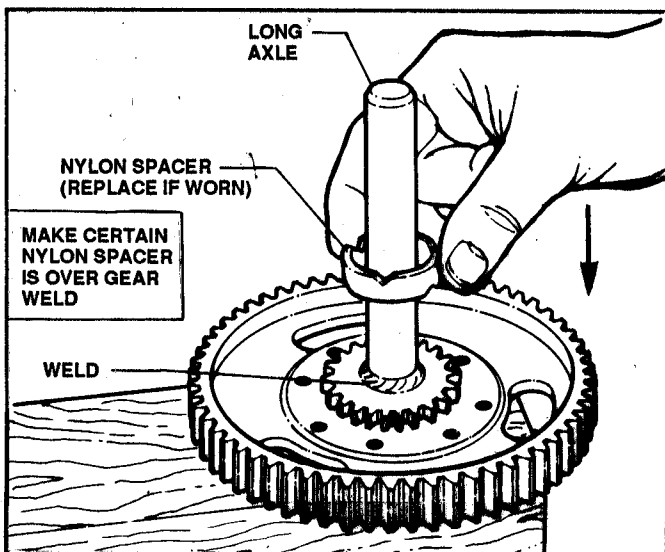

FIGURE 4.26
3. Install the nylon spacer on the long axle-over the weld. (This spacer establishes proper position of the long and short axles. Replace spacer if damaged or worn). See Figure 4.26.